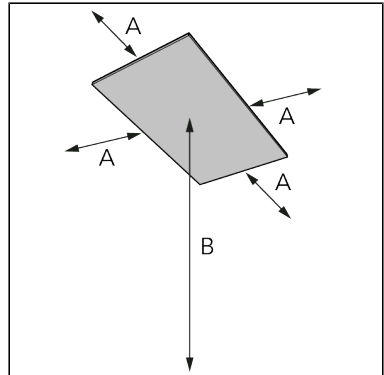

Figure 41.
2. Place the device with a minimum distance (Figure 41) of: